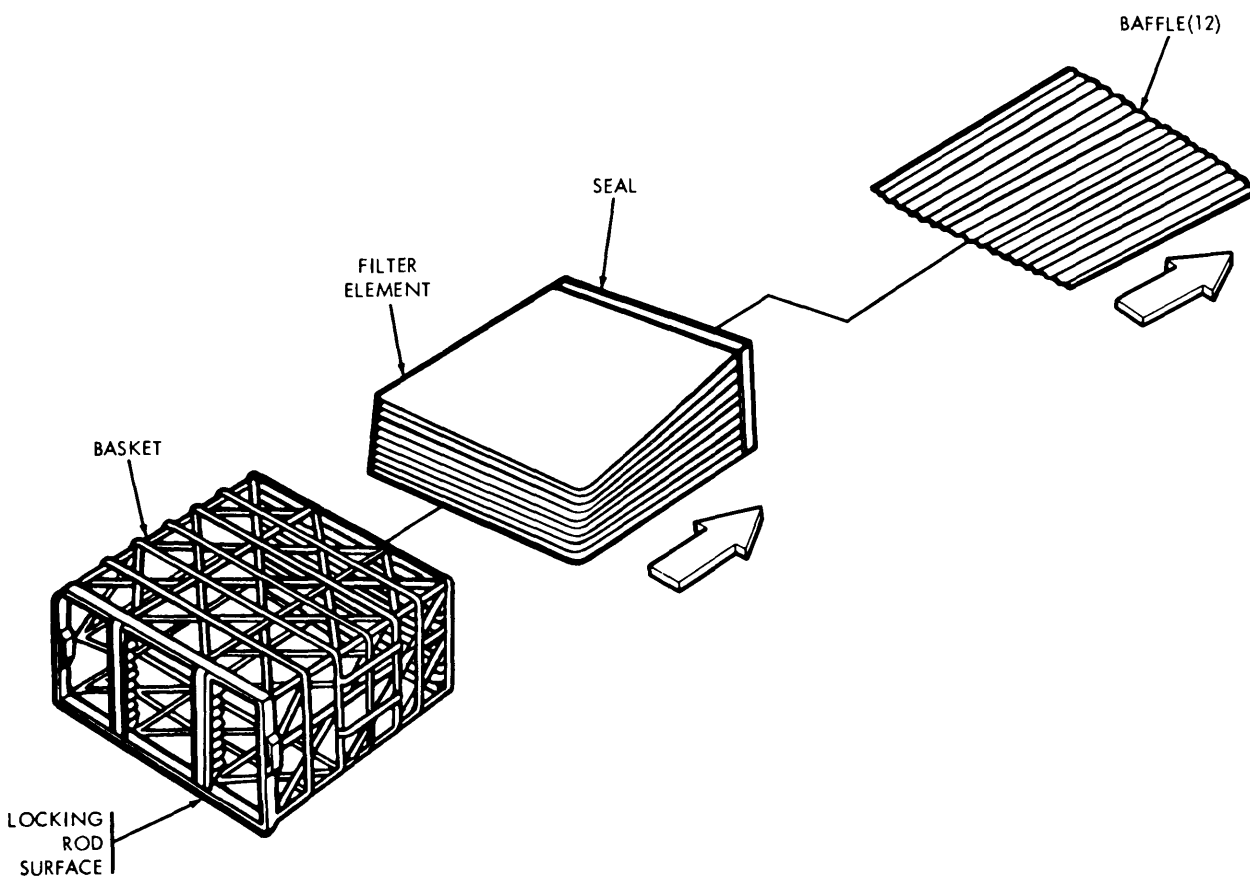

Figure 3-4. Side loading filter element inspection.
(3) Side Loading Filter Element (Fig. 3-4).